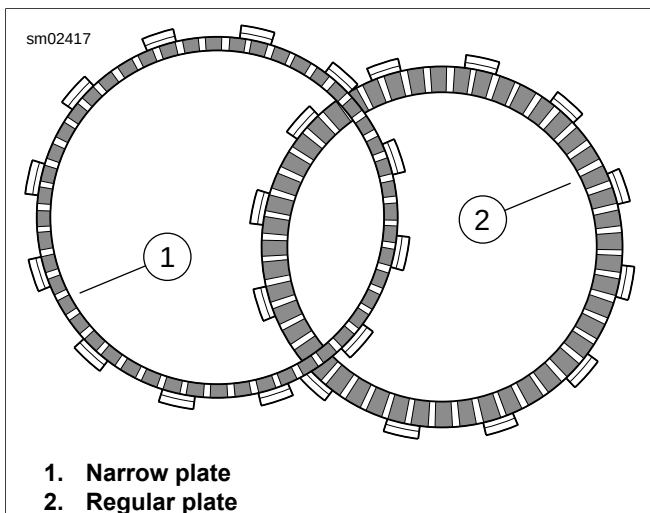

Figure 5-29. Friction Plates
- See Figure 5-29. Install the narrow friction plate on the clutch hub.